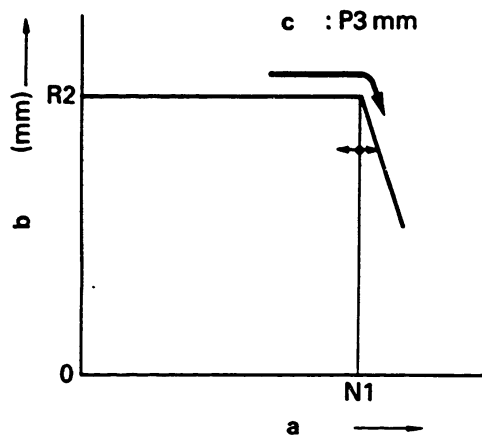

Fig. 70
2. Increase pump speed and adjust adjusting bolt (130) so that the control rack begins to move from R_2 in "fuel-decrease" direction. (Figs. 70 and 71)